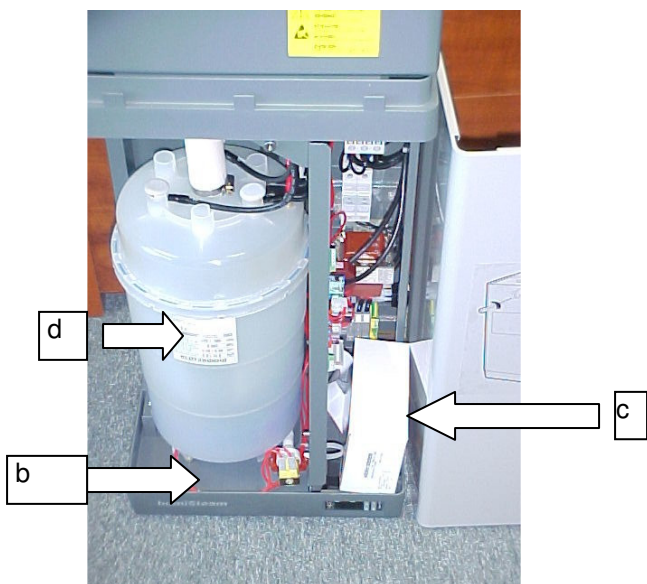

Figure 1
- 1) Upon receiving your new HU315 humidifier, remove from packaging and verify that you have all the following items depicted in figures 1 & 2
- 4) Wall mounted sensor box located in the humidifier control section (fig.1) c
- 5) One plastic white humidifier cylinder (fig.1) d